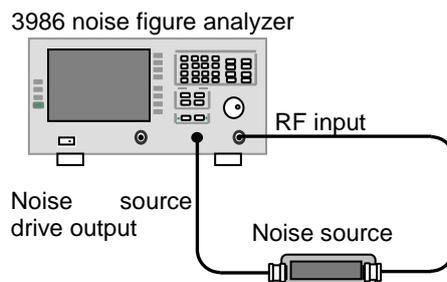

Figure 8.8 Test Block Diagram of Local Noise Figure
**Step 1.** Connect the test equipment as shown in Figure 8.8 and warm it up for 30min.
**Step 1.** Connect the test equipment as shown in Figure 8.8 and warm it up for 30 min.